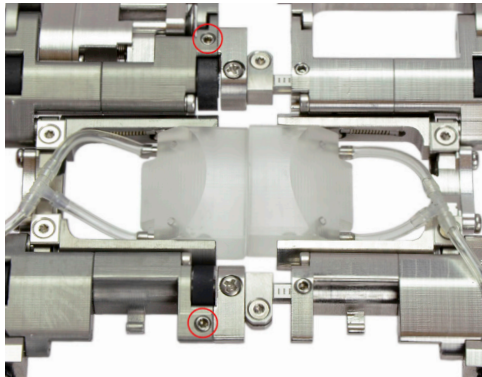
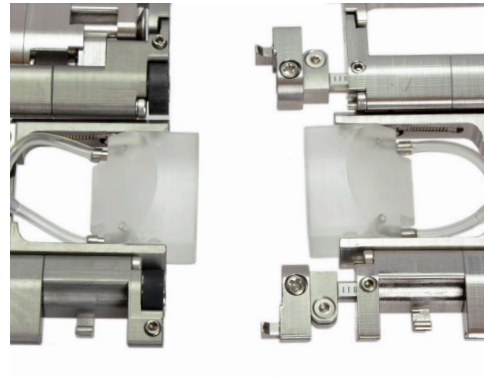

Figure 19
Figure 20
- a. Loosen crossbar bracket retaining screws and slide the non-encoded side of the scanner assembly away from the encoded side (Figure 19 - Figure 20).